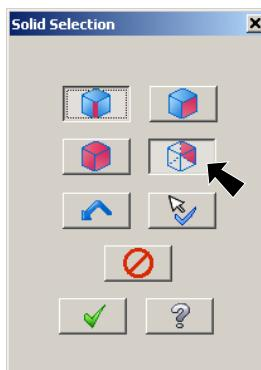

Fig. 33
Step 7. Click **From back**  in Solids Selection ribbon bar. Fig. 33.